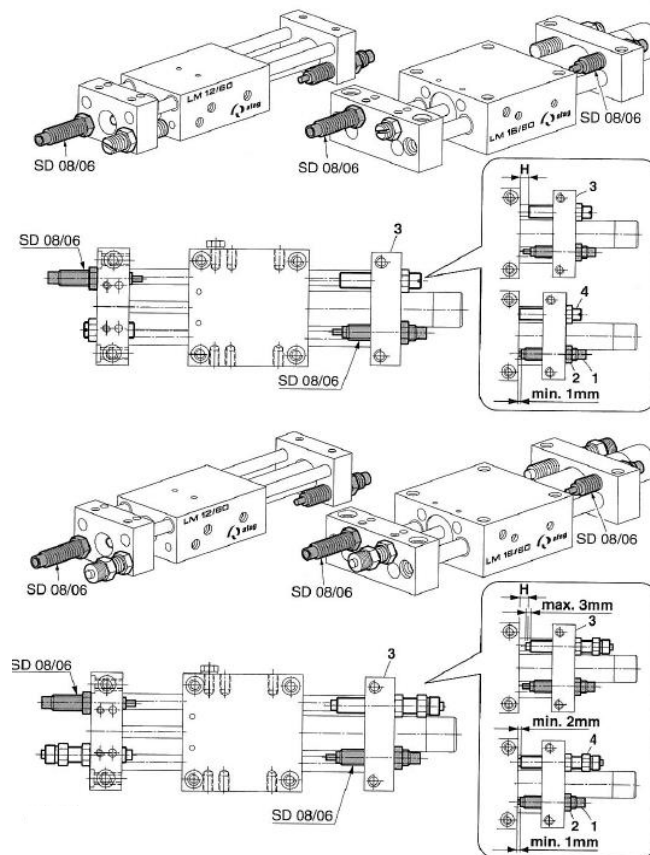

Fig. 18 Adjusting the shock absorbers
2. Screw in the shock absorber (Fig. 18, 1) until the pin protrudes at least 1 mm.
3. Fasten the shock absorber with the fixing nut (Fig. 18, 2).
The stroke (H) must be limited by the stop (Fig. 18, 4) - not by the shock absorber!